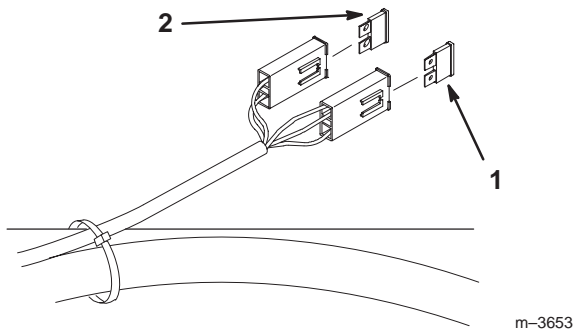

Figure 59
1. Raise the seat to gain access to fuse holder (Fig. 59).
- To replace fuses pull out on the fuse to remove it (Fig. 59).